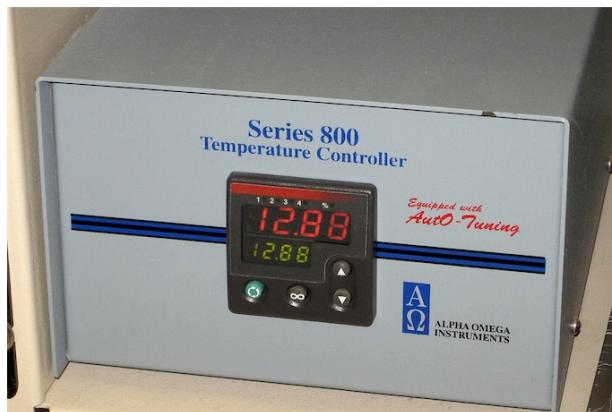

Figure 1: Series 800 Temperature Controller
- 7.2.1. Set the temperature controller unit (Series 800, Alpha Omega Instruments) at 12.88, using the arrows. The green digits represent the temperature set point; red digits represent the actual temperature of the tube (see Figure 1).